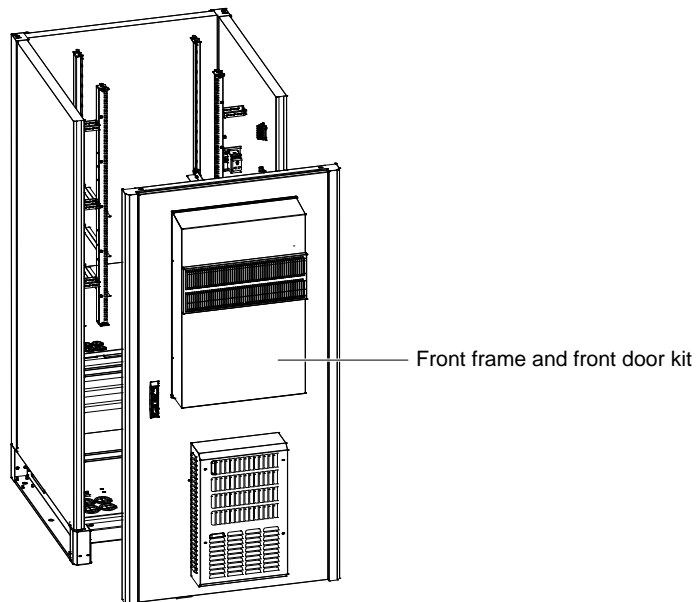

Figure 2-10 Disassembling front frame and front door kit
6. Disassemble front frame and front door kit, as shown in Figure 2-10.